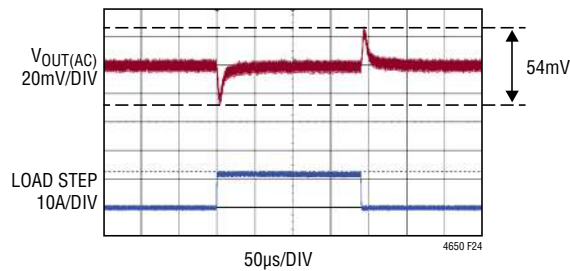

Figure 24. 25%, 12.5A Load Step Transient Waveform Of Figure 23 Circuit
**Table 4. Two-Phase Single Output (see Figure 24)**